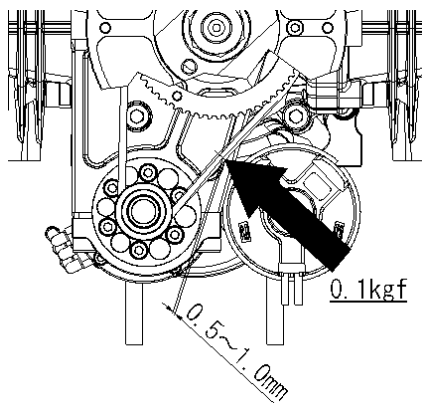
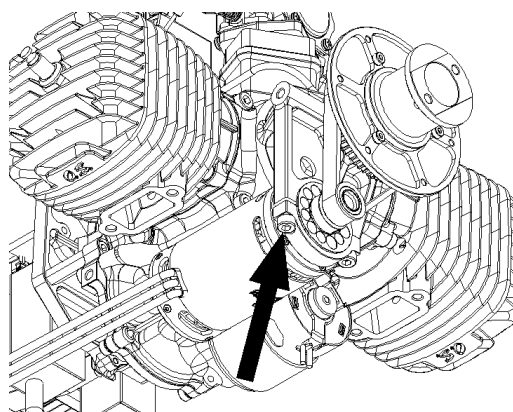

Fig.3
Fig.4
(1) Adjustment of the tension of the generator belt
- ① Press the point shown with the arrow in Fig.3 applying 2.2 pound-force (1kgf) pressure and measure the deflection.
- ② The belt should give in 0.5 - 1.0mm. If not, follow the procedure below.
- ③ Loosen the M5 screw pointed with the arrow in Fig.4.
- ④ Turn the generator to adjust the deflection within 0.5 – 1.0mm.
- ⑤ Fix the M5 screw after adjustment with fastening torque 5.4N·m.
(2) Inspection of the regulate rectifier
- ① Start the engine and move the throttle up until the generator can generate the set voltage: 3,000rpm when the set voltage is 12V, 6,000rpm when the set voltage is 24V.
- ② Measure the voltage of the output when no load and when 5A load.
- ③ Check if the difference of voltage when no load and when 5A load is less than 1.0V. In case the difference is not within the range, replace the regulate rectifier.